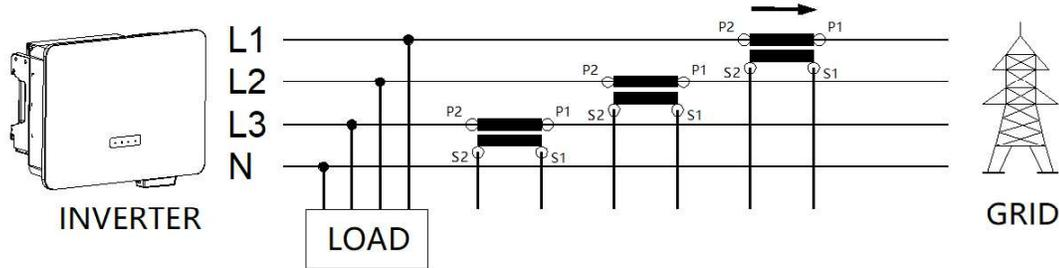

FIG 6 Installation position of current transformer
The selection of transformer should meet the requirement of 1.5 (6) A, and the transformer should be directly hung on the cable or copper bar. The installation position is shown in FIG 6 and installed in the distribution cabinet between the load and the power grid, with the arrow of the transformer pointing towards the direction of the power grid.